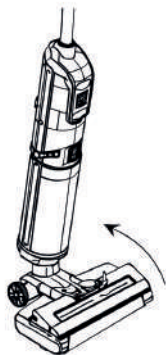

Fig. 12
1. Insert the protruding tabs on the left and right sides of the front part of the brush cover into the corresponding slots in the floor brush housing (see Fig. 12).